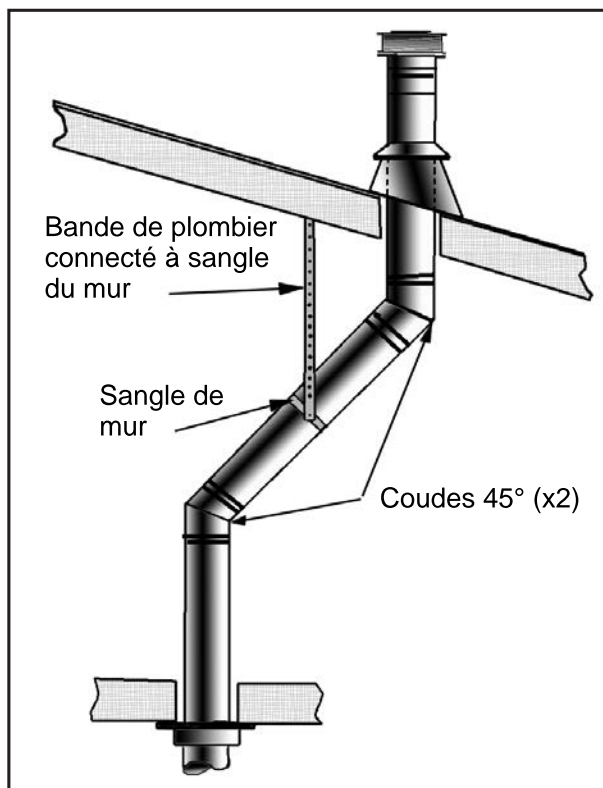
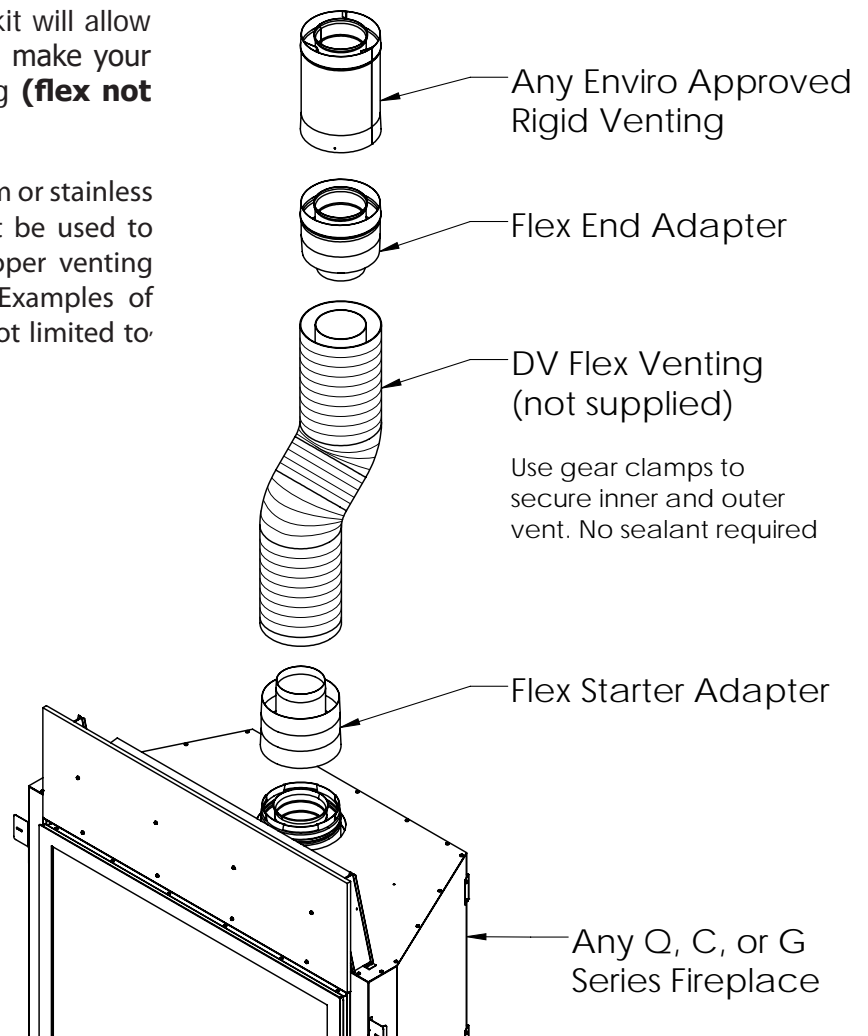

Figure 26: Use of Wall Straps.
Figure 28. Flex Adapter Kit Install
Table 7: Minimum 'H' for Figure 26.
- (1) If an offset is necessary in the attic to avoid obstructions, it is important to support the vent pipe every **3' (914 mm)**, to avoid excessive stress on the elbows, and possible separation. Wall straps are available for this purpose (see Figure 26).
- (2) When ever possible, use 45° degree elbows instead of 90° degree elbows. The 45° degree elbow offers less restriction to the flow of flue gases and intake air.
- (3) For multi story installations; a ceiling firestop is required at the second floor, and any subsequent floors (see Figure 28). The opening should be framed to **10" (254 mm) x 10" (254 mm)** inside dimensions, in the same manner as shown in Figure 22.